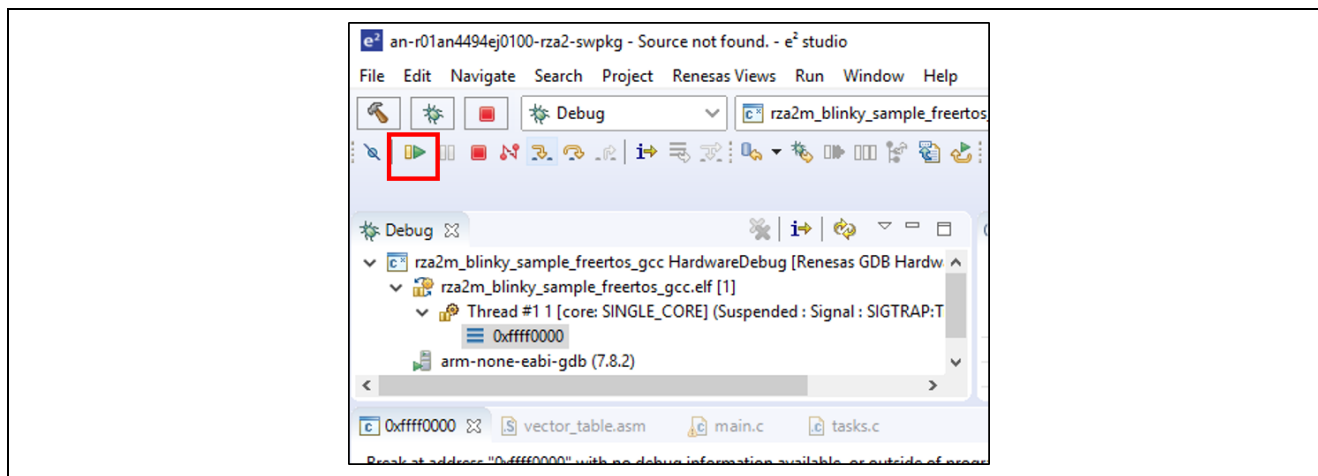

Figure 3-12 Run the target program
- Once the target program has been downloaded, click the 'Resume' button to run the target program. This is shown in Figure 3-12.